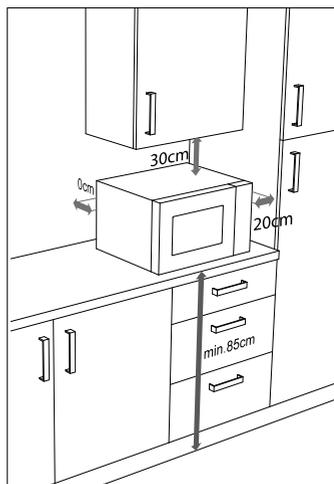

Fig. 3: Appliance clearance
- ▶ To ensure adequate ventilation, the clearances specified in figure 3 must be maintained. The spacer at the back of the appliance must touch the wall. It ensures that the correct clearance is maintained when positioning the microwave.